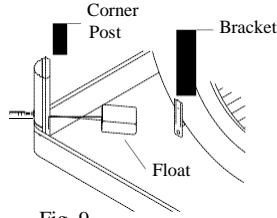
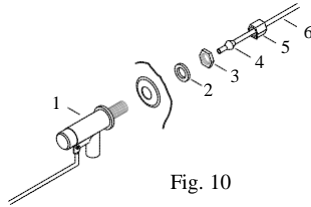

Fig. 9
Fig. 10
- **Install float and attach water line to float.** The float may be installed in either the corner post or bracket (see Fig. 9). If you have model 7300DD then the float should be mounted to the bracket. Refer to figure 10 for installation instructions. Insert the float (1) thru the hole in the corner post or bracket. Install the washer (2) and nut (3). Tighten to keep the float from turning. Place the nut (5) and ferrule (4) on the water supply line. Connect to float fitting and tighten until watertight.